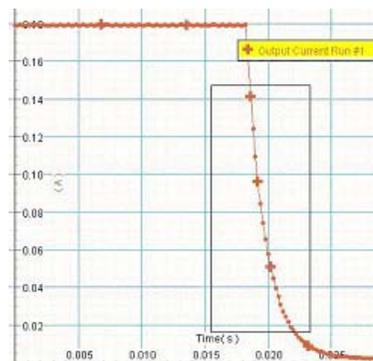

Figure 3 Exponential decay of current in LR circuit
- Click Start. The Output Current graph displays the familiar behavior of an LR circuit (see Figure 3). The maximum voltage and maximum current are recorded internally, and their ratio is given in a Coil Resistance display window.